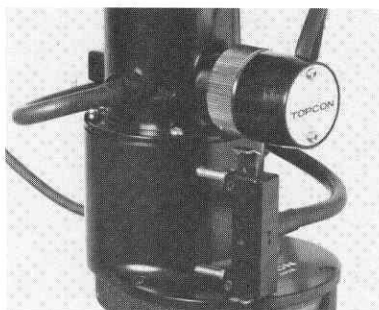

Fig. 82
- (d) The background illuminator may hit the patient's forehead, when the slit illumination system is inclined. In such cases, therefore, detach the background illuminator (refer to Attachment of the Background illuminator), wrap it around the slit illumination system and store the background illuminator on the setting pin for the background illumination ③⑧ over the slit mechanism (See Fig. 82)